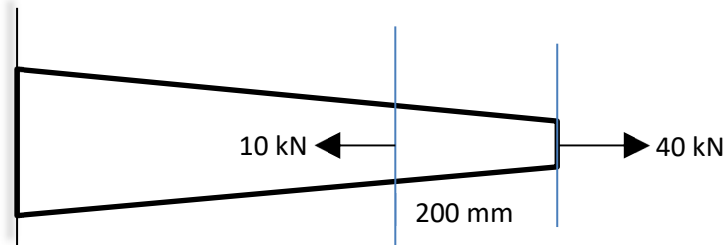

Figure 3
- b) A steel bar of 600 mm length has a cross-sectional area of 650 mm^2 and 350 mm^2 at two ends. It is fixed at the large end and subjected to two axial forces of 40 kN and 10 kN as shown in Figure 3. The modulus of elasticity E for the bar material is $200 \times 10^3 \text{ N/mm}^2$. Model the bar with three finite elements and determine